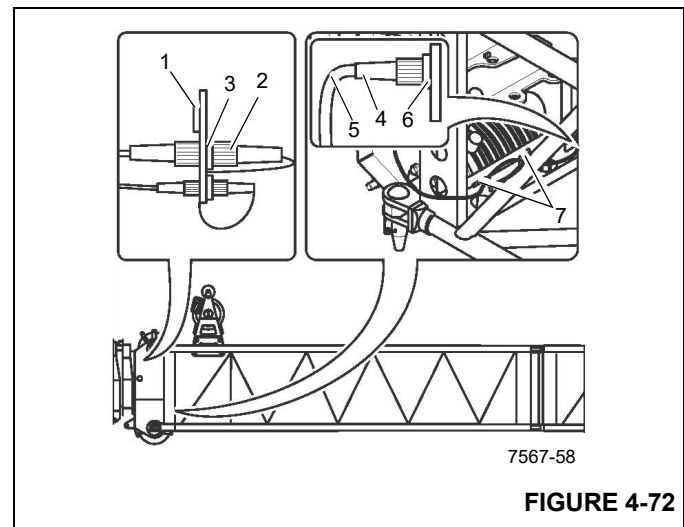

FIGURE 4-72
1. Remove the plug (4) (Figure 4-72) from the socket (3) and plug into the dummy socket (6).
2. Wind the cable (5) onto the holder (7).
3. Remove the plug (2) from the dummy socket (1) and plug it into the socket (3).